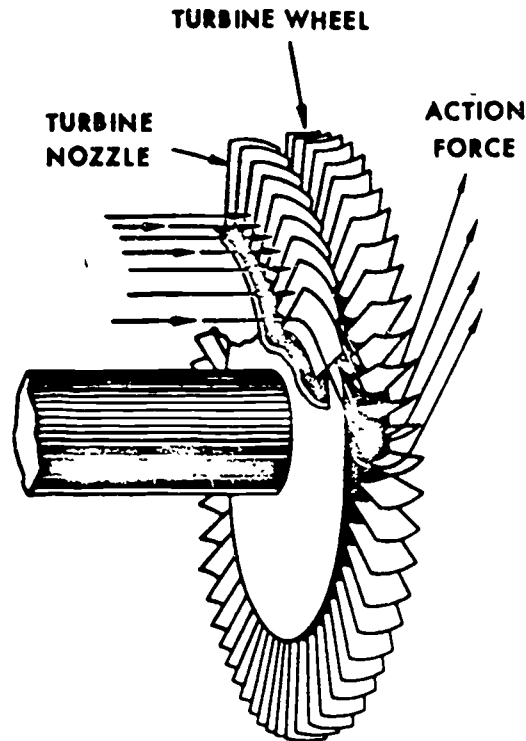

Figure 8. Turbine Nozzle Wheel.
c. Turbine nozzles (Figure 8)
(1) Purpose: Increases velocity and directs the exhaust gases onto the _____ at the most effective angle.
(2) There is one turbine nozzle in _____ of each turbine wheel.
(3) The turbine rotor assembly is housed in the _____ vane casting.
d. Major rotating assembly (Figure 8)
(1) The two major parts that rotate and make up one major rotating assembly are the: